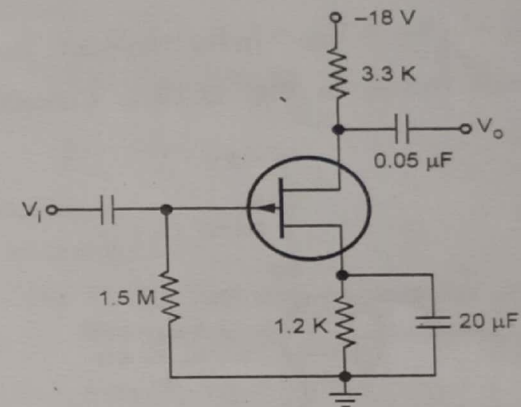

Fig. Q.22.1
Q.22 The FET shown in Fig. Q.22.1 has $|I_{DSS}| = 12 \text{ mA}$ and $|V_p| = 5 \text{ V}$. Calculate the quiescent values of i) I_D ii) V_{DS} iii) V_{GS} .